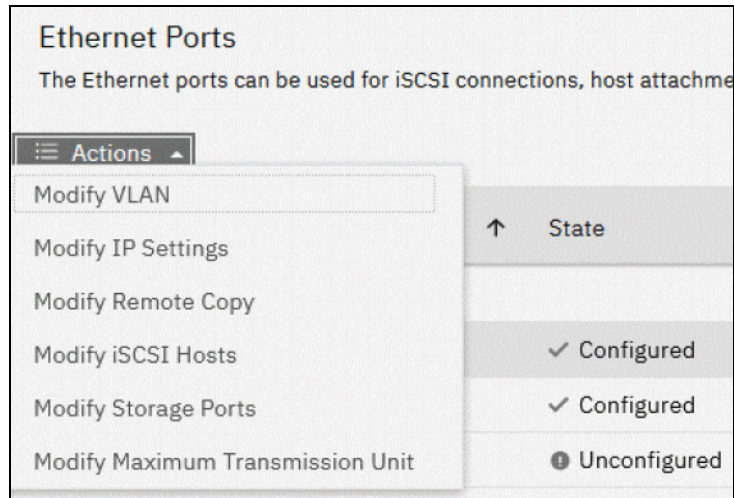

Figure 7-22 Available actions with configured ports
- After the ports are configured, multiple options are available from the Actions drop-down, as shown in Figure 7-22. For example, to disable any interfaces that are not required for host connections (and might be used for replication only), select the configured port, and then, select **Actions** (or right-click while hovering over the chosen port) → **Modify iSCSI Hosts**.